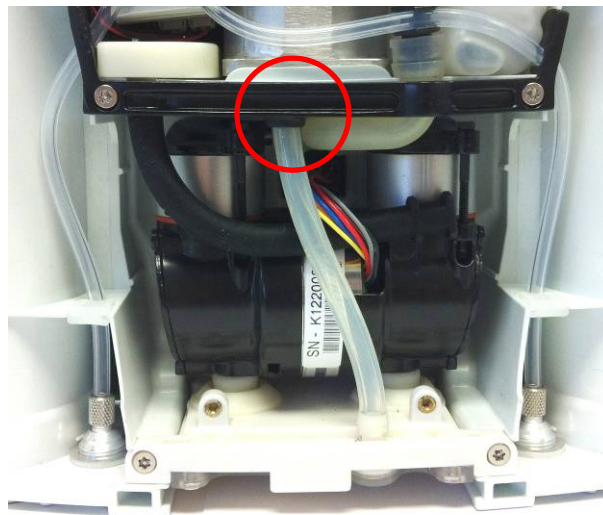

Figure 9: Properly installed filter body and tubing
4. Make sure the other end of the filter body tubing is oriented in its designated space on the tube bracket (Figure 9).